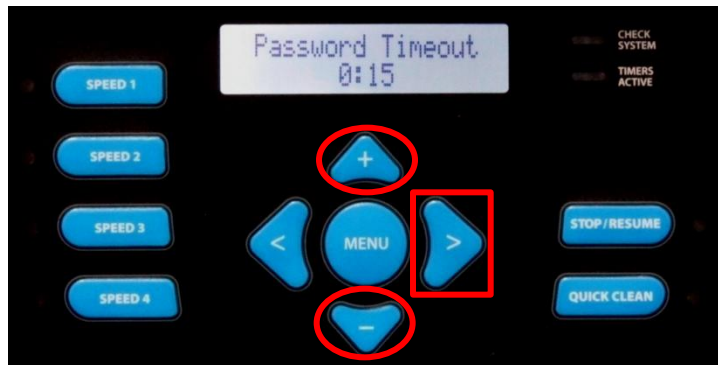

Figure 78
2. At this point (fig 78) you can set the Password Timeout in 15 min increments up to 3 hrs by pressing the **+** & **-** button. If you enable this feature and the timeout has elapsed the user will be prompted to enter the password, The default password is **1234** to re-enter if a new one had not been set. Press the **>** button to continue.